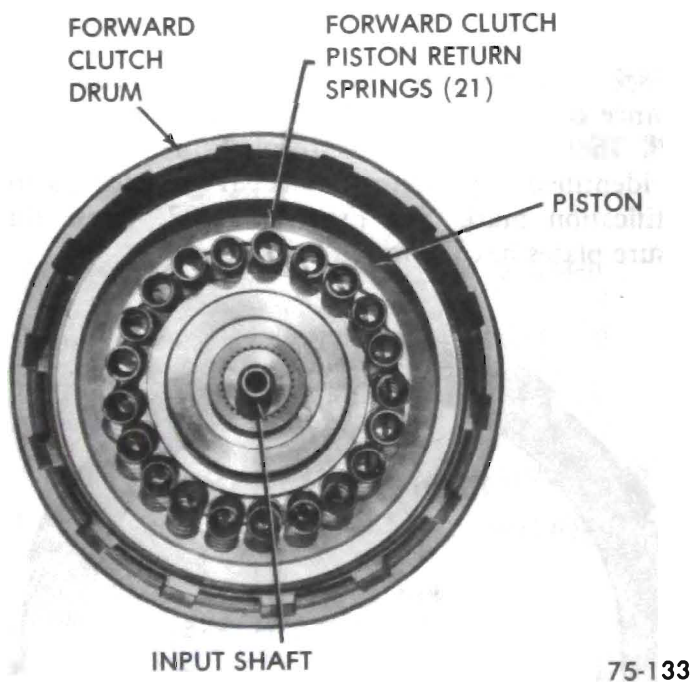

Figure 75-187
5. Remove twenty-one (21) clutch return coil springs. See Figure 75-187.
3. Install twenty-one (21) clutch return coil springs. See Figure 75-187. Return springs are violet in color.